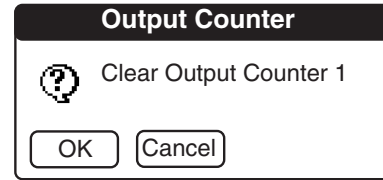

Figure 4-74 M-3811A IPScom for Palm OS Clear Output Counter 1(2) Dialog
Selecting **Clear Output Counter 1(2)** initiates a dialog screen (Figure 4-74). The user can select **OK** to reset Output Counter 1(2) or **Cancel**.